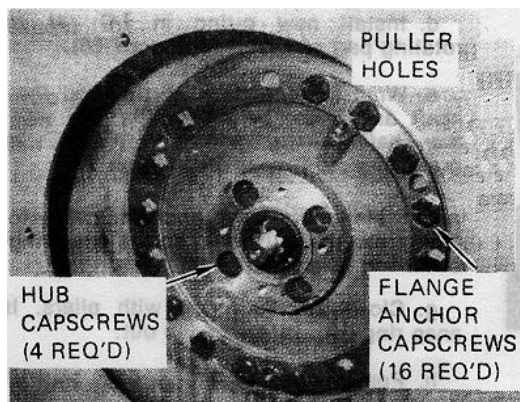

FIGURE 7-71.
e. Remove the flange anchor capscrews. Before removing the hub capscrews, pull the anchor flange using the puller holes provided and appropriate capscrews. At the same time pry between the right side frame and drum moving the motor housing out of the side frame pilot (see figure 7-71).